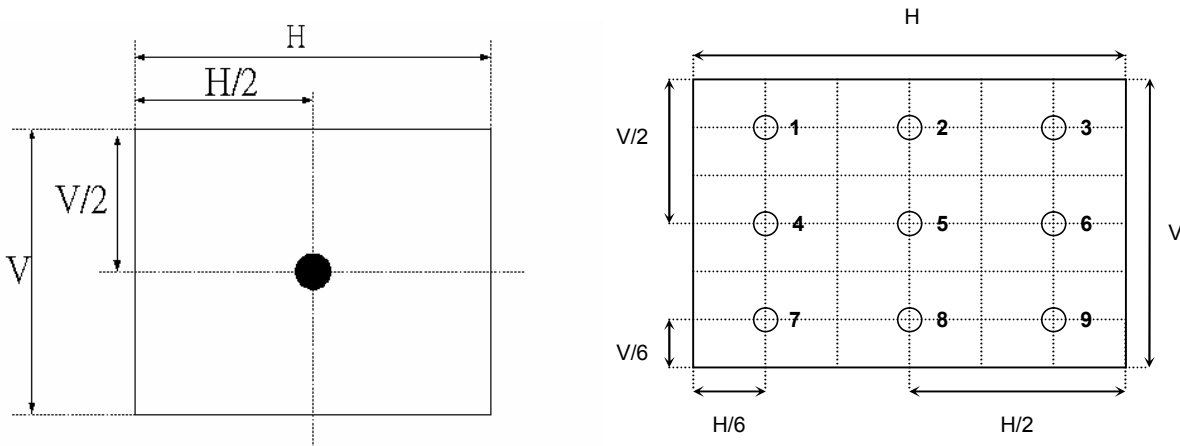

Fig.4-2 Optical measurement point
2. Surface Luminance is luminance value at point 5 across the LCD surface 50cm from the surface with all pixels displaying white. For more information see Fig. 4-2. When lamp current $I_L=6.5\text{mA}$, $L_{WH}=L_{on5}$, where L_{on5} is the luminance with all pixels displaying white at center 5 location.